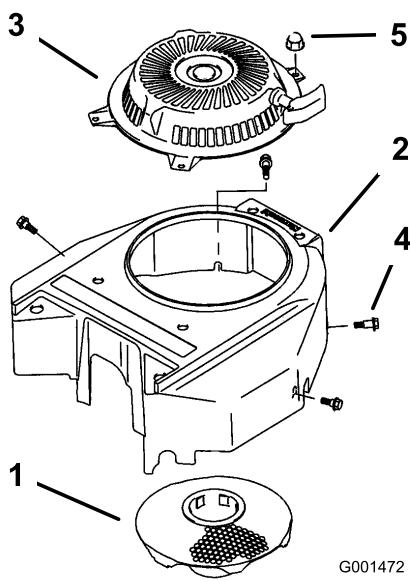

Figure 29
3. Remove the air intake screen, recoil starter and fan housing (Figure 29).
5. Install air intake screen, recoil starter and fan housing (Figure 29).